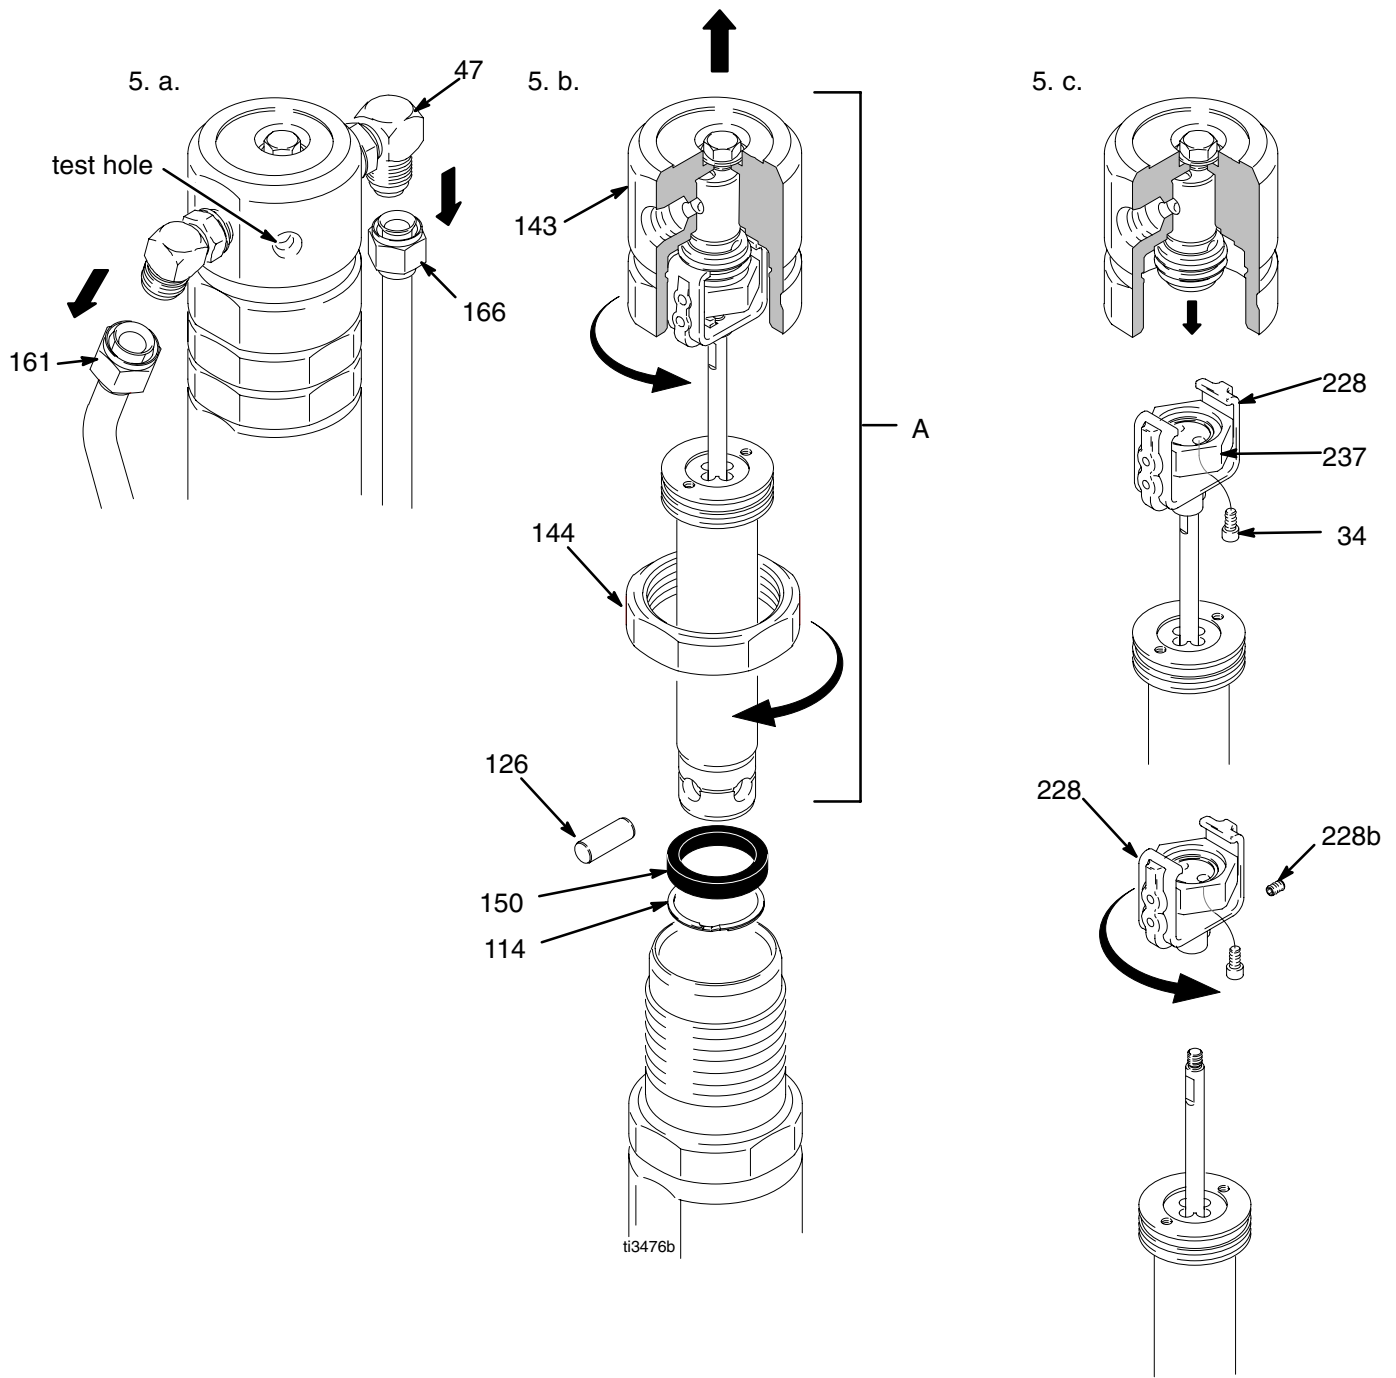

Fig. 7
- Fig. 7. Slide retainer clip (114) and magnet ring (150) down to remove. Remove pump pin (126).
- Remove hydraulic lines (161, 166) from fittings (47) at top left and right side of hydraulic motor.
- Loosen jam nut (144).
- Unscrew and remove hydraulic motor cap (143).
- Slide piston rod/hydraulic motor cap assembly (A) from hydraulic motor cylinder.
- Remove yoke (228).
- Use shortened Allen wrench to remove two screws (34) from spring retainer (237). Remove yoke, spring retainer, piston and trip rod assembly from hydraulic motor cap.
- Fig. 7. Put hydraulic motor cap (143) in vise.
- Install yoke, spring retainer, piston and trip rod assembly in hydraulic motor cap. Use shortened Allen wrench to install two screws (34) in spring retainer to secure piston rod assembly to hydraulic motor cap.
- Slide piston rod assembly (A) into hydraulic motor cylinder.
- Screw down hydraulic motor cap (143) until cap bottoms out. Unscrew hydraulic motor cap until inlet and outlet align with hydraulic line fittings and test hole in hydraulic motor cap points toward belt guard (223).
- Torque jam nut (144) against hydraulic motor cap (143) to 150 ft-lb (17 N·m).
- Install hydraulic lines (161, 166) to fittings (47) to top left and right side of hydraulic motor per procedure on page 7; torque to 40 ft-lb (54.2 N·m).
- Pull start rope slowly to align pin holes of hydraulic motor and displacement pump (111). Connect with pump pin (126); install retainer clip (114), page 24.